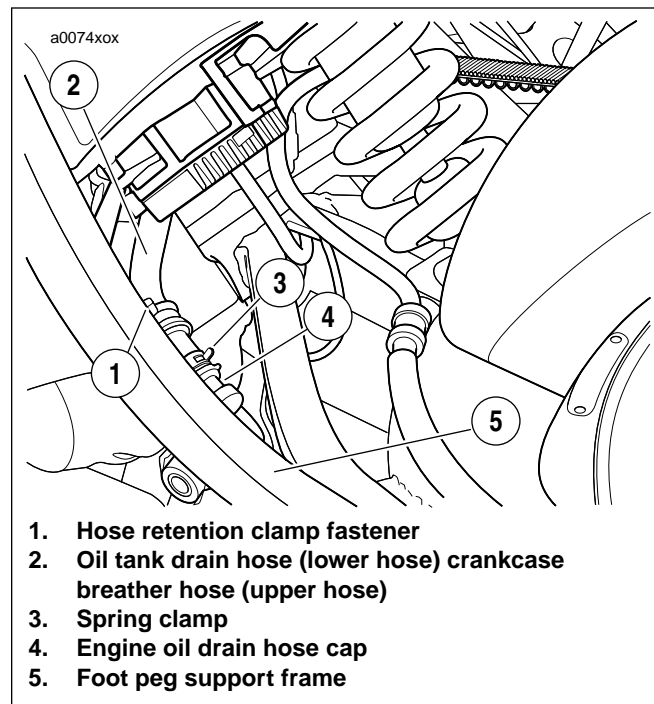

Figure 1-3. Oil Tank Drain Hose
1. See Figure 1-3. Locate the engine oil tank drain hose (normally the lower hose) and the crankcase breather drain hose (normally the upper hose) inside the foot peg support frame on the left side of the motorcycle.